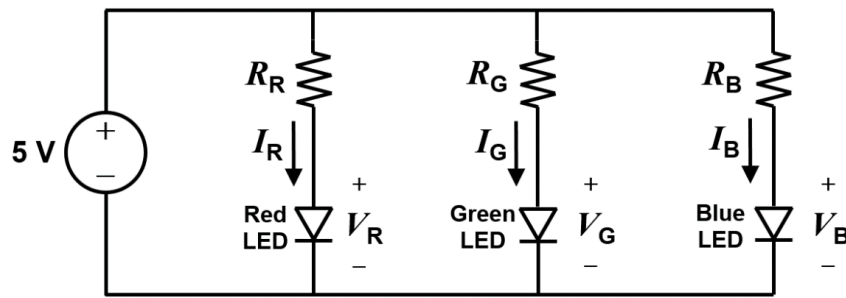

Figure 2: Circuit for characterizing the I-V relationship of each colour LED inside the Lamp.
2. Each of the R, G, and B LEDs inside the Lamp has different current vs. voltage (I-V) characteristics, which you will determine experimentally. Figure 2 shows the circuit setup that you will be using for this purpose. The idea is to obtain five sets of current vs. voltage data points for each of the R, G, and B LEDs, so that we can use them to plot I-V graphs using Microsoft Excel. To reduce the experimental measurements that you need to perform, an easier approach is to **measure the voltage across the LED, and then indirectly (see hints below) calculate the LED current using circuit laws**. For example, for the Red LED in Figure 2, if  $R_R$  is known, you can indirectly compute the current  $I_R$  after measuring  $V_R$ . Take some time now to derive the equation that expresses  $I_R$  in terms of  $V_R$ ,  $R_R$  and your DC supply voltage. Make sure you include the derivation in your lab report.
4. Using the breadboard, construct the circuit shown in Figure 2 for **just the Red LED first**. Vary the resistance  $R_R$ , according to the values given in Table I {i.e., 150  $\Omega$ , 330  $\Omega$ , 560  $\Omega$ , 820  $\Omega$ , and 1500  $\Omega$ }. For each resistance value, measure the voltage  $V_R$  and calculate the current  $I_R$  using the expression you have derived in Step 2. Note that **you should be using the measured value of resistance  $R_R$  in your calculation**, not its nominal value. Tabulate your readings using the format given in Table I, and include them in your lab report.